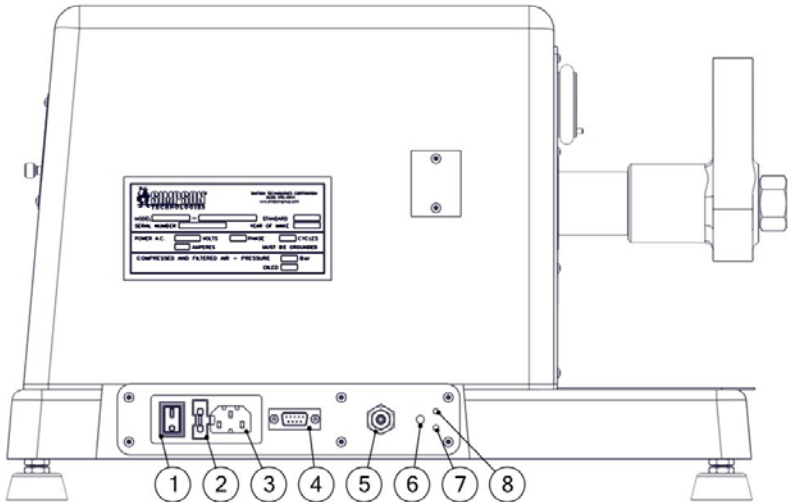

Figure 4: Back View - Electronic Universal Sand Strength Machine (Model 42104)
4. Turn the strength machine power switch to the on position (Figure 4, Item 1). A “HELLO” message will briefly appear on the digital display of the strength machine. This message will be replaced by numerals.